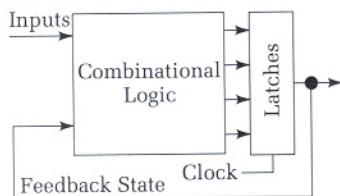

Figure Ex6.22 Sequential circuit for Exercise 6.22.
- 6.22** (*Clocking Issues*) Given the sequential logic circuit of Figure Ex6.22, where the flip-flops have worst-case setup times of 20 ns, propagation delays of 13 ns, and hold times of 5 ns, answer the following questions: